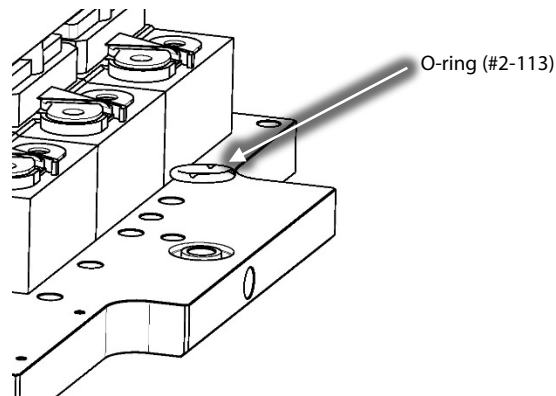

Figure 24 – IGBT Heat Sink Plate O-ring Install
- Apply O-Lube to the provided SCR Heat Sink O-ring (#2-113) and place in the O-ring groove in the IGBT Heat Sink Plate and install. Refer to Figure 24 (IGBT Heat Sink Plate O-ring Install).